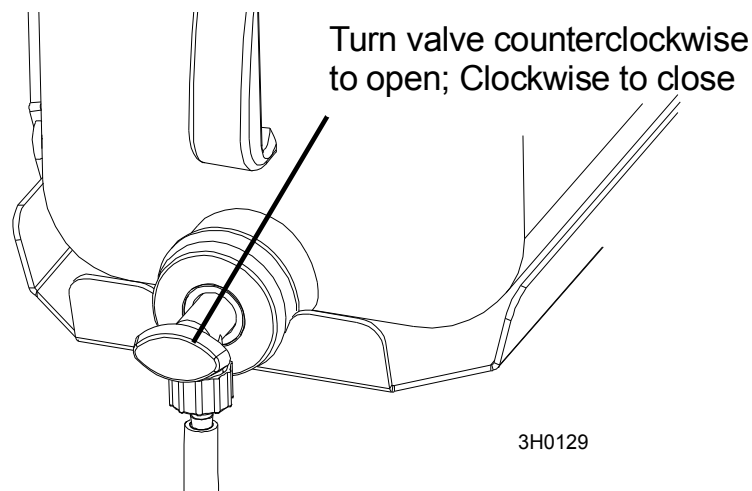

FIG. 2-14
**See Figure 2-14.** Open the valve on the water bottle to start water flow. A stream of water flow to the blade only when the main motor is turned on.